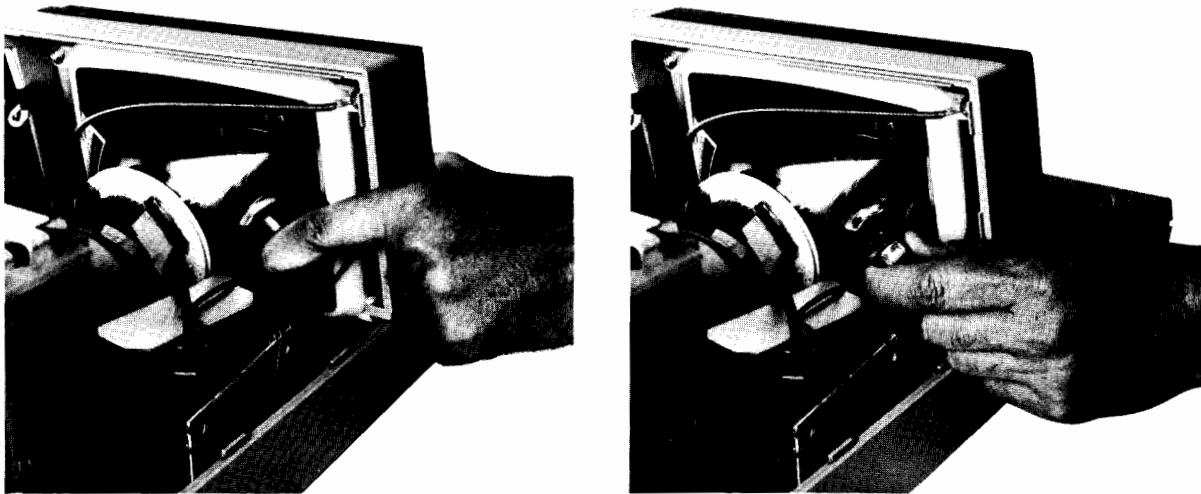

Figure 4-10. Removing the 9826 CRT Anode Connector.
5. Press the anode connector to one side with your forefinger. Then rotate it out of the CRT (see Figure 4-10).